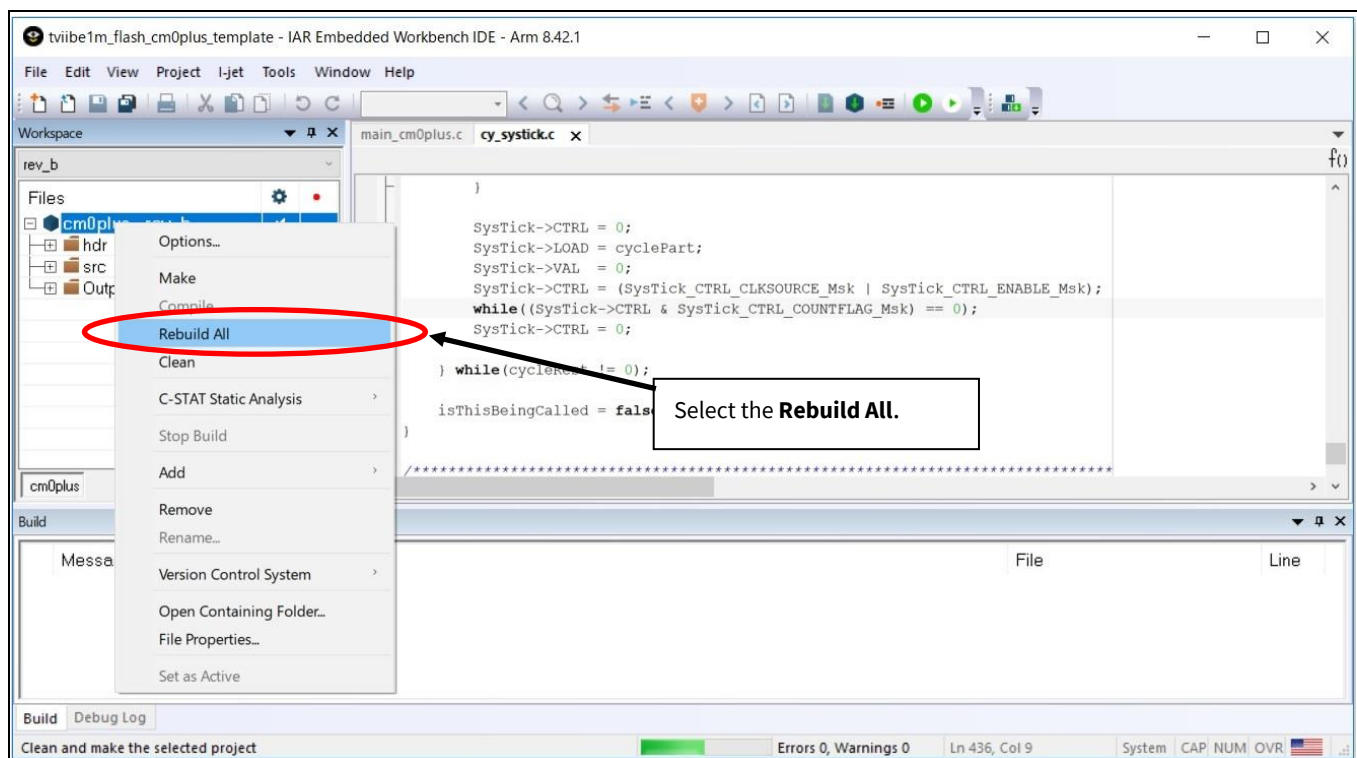
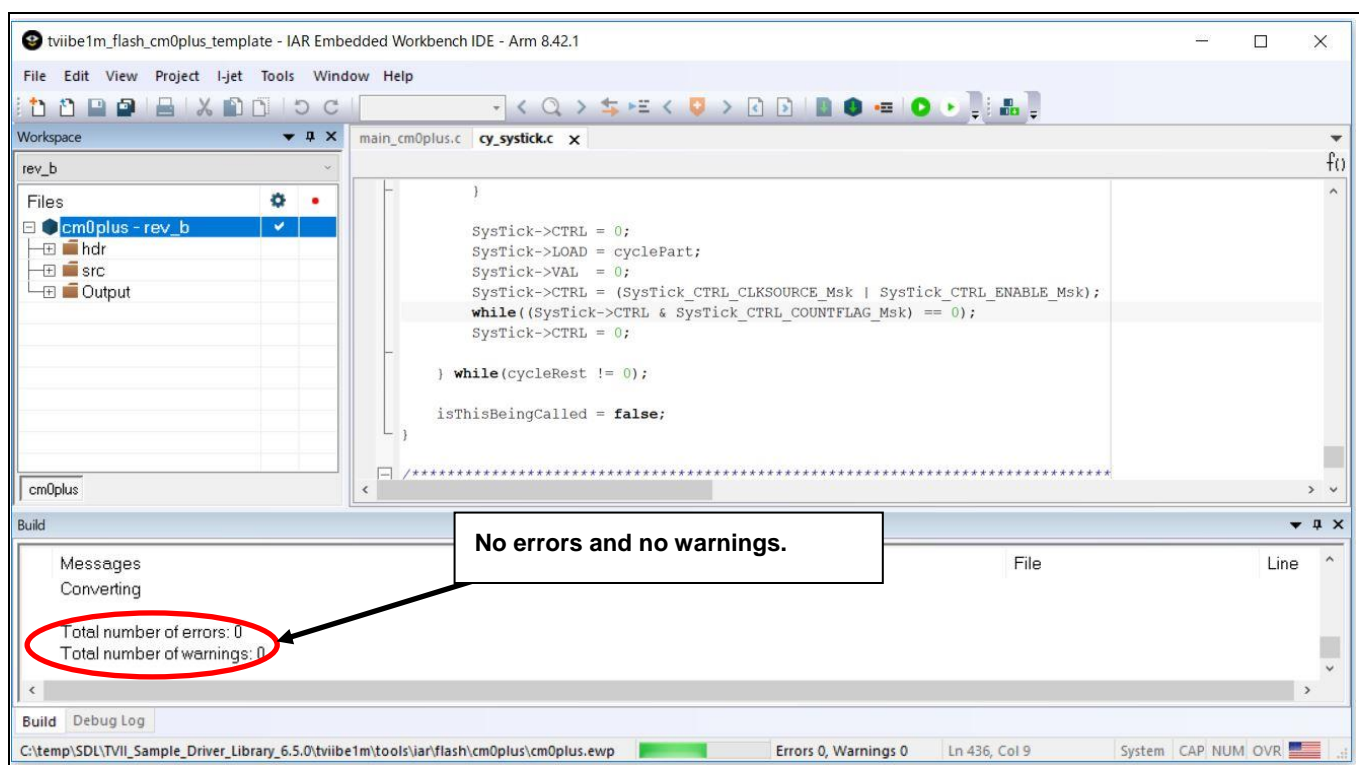

Figure 26 Rebuild the project of SDL project
Figure 27 Rebuild successful of the project of SDL project
- For the build, select *cm0plus.eww* on the workspace and right-click and select **Rebuild All** as shown in Figure 26. The Rebuild All process starts, and no errors and no warnings messages appear as shown in Figure 27.